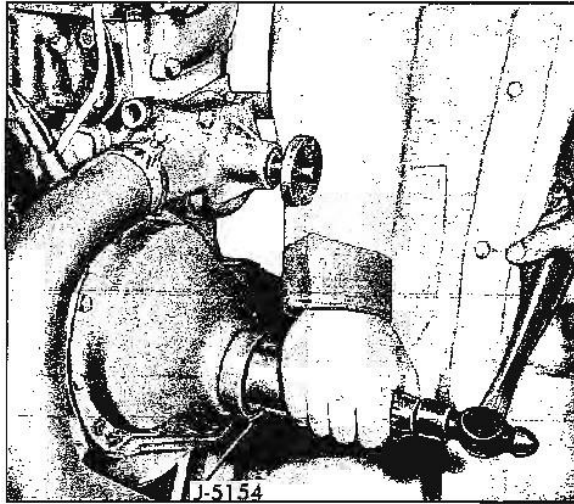

Fig. 6-38 Installing Timing Cover Oil Seal
2. Install new lip seal with lip toward inside of cover and drive it into position with tool J-5154 (Fig. 6-38).